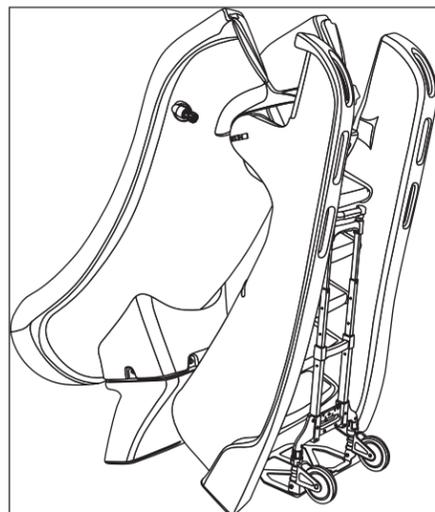

Figure 3
1. Place the provided dolly under the bottom step of the ladder as shown in **Figure 3**.
See Article 5 contained in ANSI/APSP/ICC-5 2011 STANDARD FOR RESIDENTIAL INGROUND SWIMMING POOLS and refer to FIGURE 3 and Table 1 for Minimum Water Envelope Dimensions AB, BC and Width at Point C.